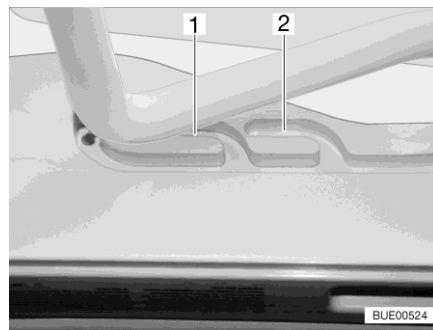
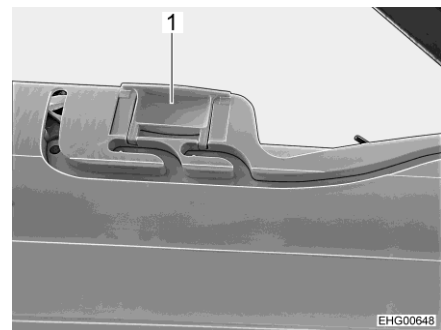

Fig. 30 Guide (ventilation position)
Fig. 31 Lock (ventilation position)
The Heki skylight can be put in two ventilation positions: Bad weather position (Fig. 30,1) and central position (Fig. 30,2). Depending on the model, the skylight can be locked in the central position with both left and right latches (Fig. 31,1) on the skylight frame.
- Push the bar slightly upwards and into the selected guide (Fig. 30,1 or 2) and lock if necessary.